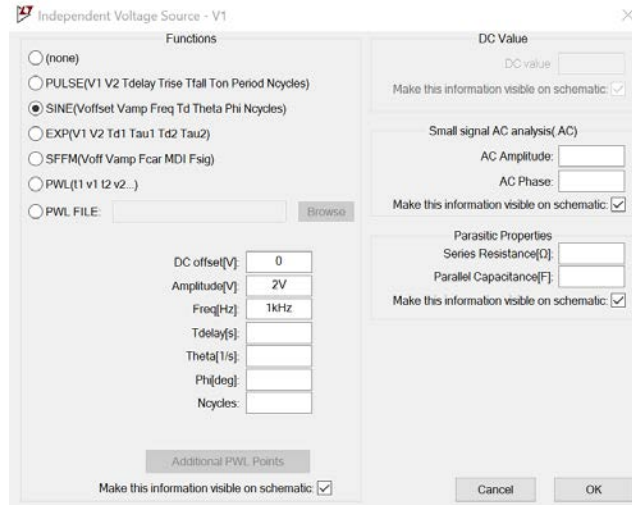

Figure C-6.
- Hold the mouse over the Voltage Source symbol and right click. A dialog box opens as shown in figure C-6.